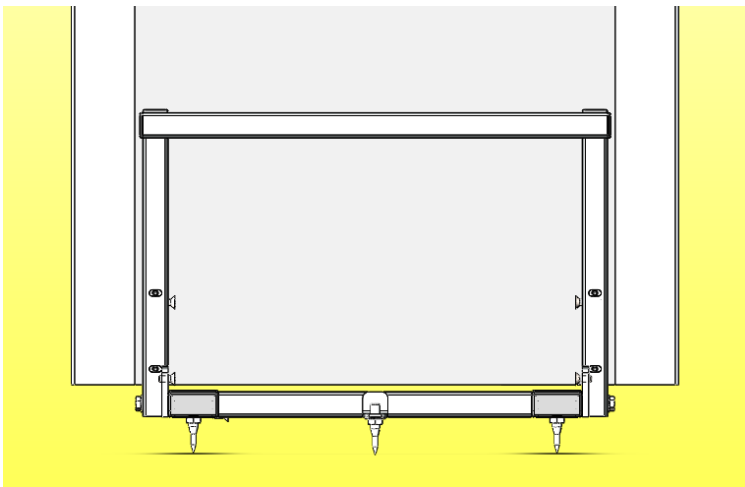

Figure 5
3. Fasten the stand to the speaker at the points shown in *figure 5*, using the screws that Magnepan supplied with your speakers. Tighten snugly but do not over tighten as over tightening may damage the threaded inserts or screws.